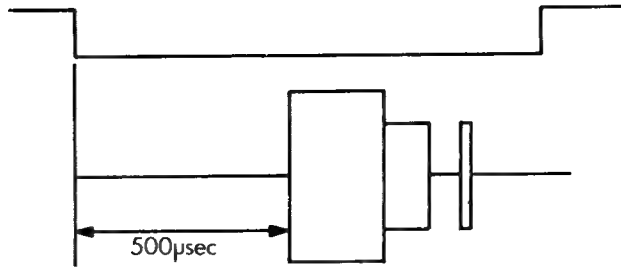

Fig. 5-1 Index burst waveform
- vi) Adjust VR201 so index frequency is  $200 \pm 2\text{ms}$  (See Fig. 5-1).
- 5) Measure timing between sweep start and an initial data pulse. It should be 500 usec  $\pm$  500 usec. When the timing is not within this range, proceed with the following adjustment. (Refer to Fig. 5-1).
- 8) Seek to the track OO and make sure that the timing is within 500 usec  $\pm$  200 usec ( $\pm$ 300 usec). Tighten the screws. (Fig. 5-1).